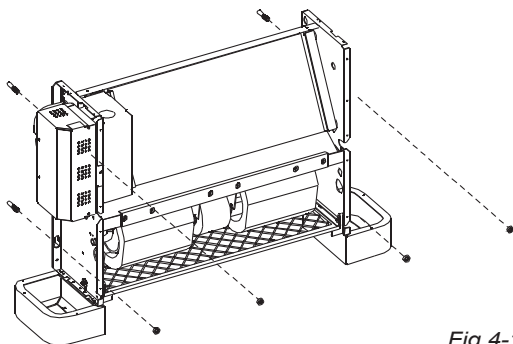

Fig.4-18
- 2) Secure the unit by driving the four fixing screws into suitable masonry plugs. (Refer to Fig.4-18)